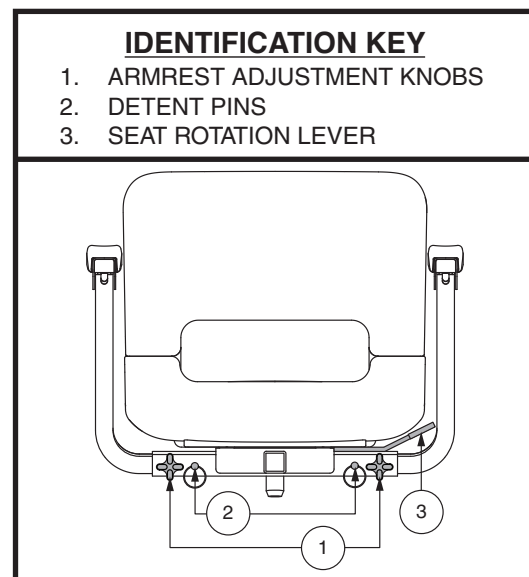

Figure 19. Seat Adjustments – Style A
1. Loosen the armrest adjustment knobs. See figure 19.
1. Depending on your seat type, either pull upward or push forward on the seat rotation lever to disengage the seat. See figure 19 or 20.